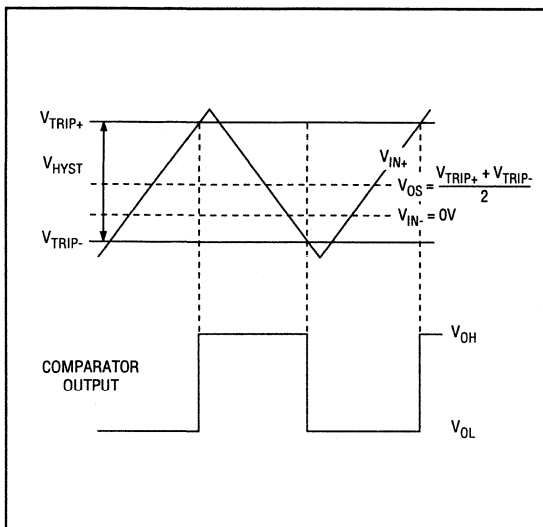

Figure 1. Input and Output Waveform, Noninverting Input Varied
- Note 2:** The input-referred trip points are the extremities of the differential input voltage required to make the comparator output change state. The difference between the upper and lower trip points is equal to the width of the input-referred hysteresis zone. See Figure 1.
- Note 3:** V_{OS} is defined as the center of the input-referred hysteresis zone. See Figure 1.
The hysteresis in a comparator creates two trip points: one for the rising input voltage and one for the falling input voltage (Figure 1). The difference between the trip points is the hysteresis. When the comparator's input voltages are equal, the hysteresis effectively causes one comparator input voltage to move quickly past the other, thus taking the input out of the region where oscillation occurs. Standard comparators require hysteresis to be added with external resistors. The MAX941/MAX942/MAX944's fixed internal hysteresis
Figure 1 illustrates the case where IN- is fixed and IN+ is varied. If the inputs were reversed, the figure would look the same, except the output would be inverted.